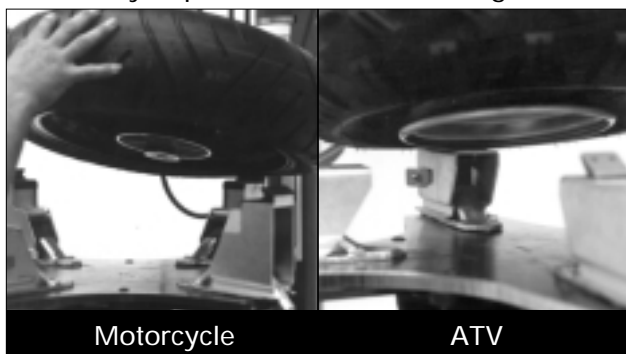

Figure 5 - Place Tire/Wheel Assembly on Table Top
- Place tire/wheel assembly on table top with mounting side up (Figure 5). Use the clamp control pedal to move the clamps inwards (push pedal down) or outwards (toggle pedal up). Clamp motorcycle and ATV wheels from the outside (clamps push inwards against the outside rim edge). Place rim flange into rear clamp and slowly move the other clamps inward until they contact the rim. Observe closely to prevent tire/wheel damage.